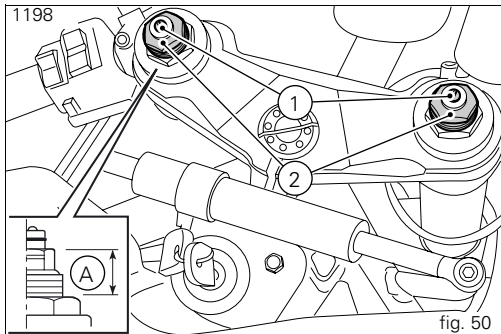
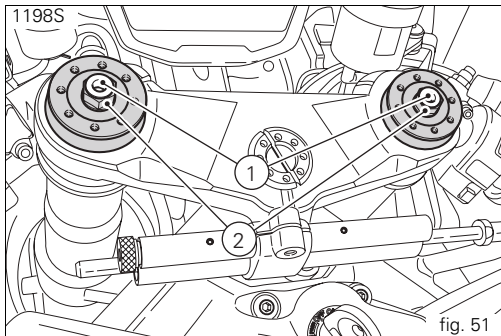

fig. 50
fig. 51
- 1) to adjust rebound damping (fig. 50 and fig. 51);
- 2) to adjust inner spring preload (fig. 50 and fig. 51);
Spring preload (1198) (A, fig. 50): 18 mm;
To change the preload on the inner spring for each fork leg, turn the adjuster with the hex end (2, fig. 50 and fig. 51) with a 22 mm hex wrench.